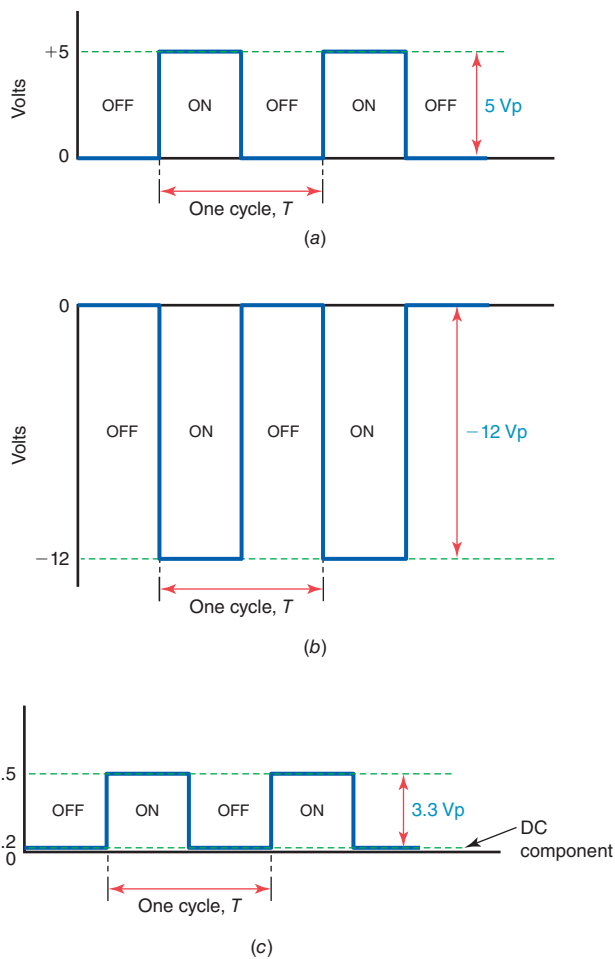
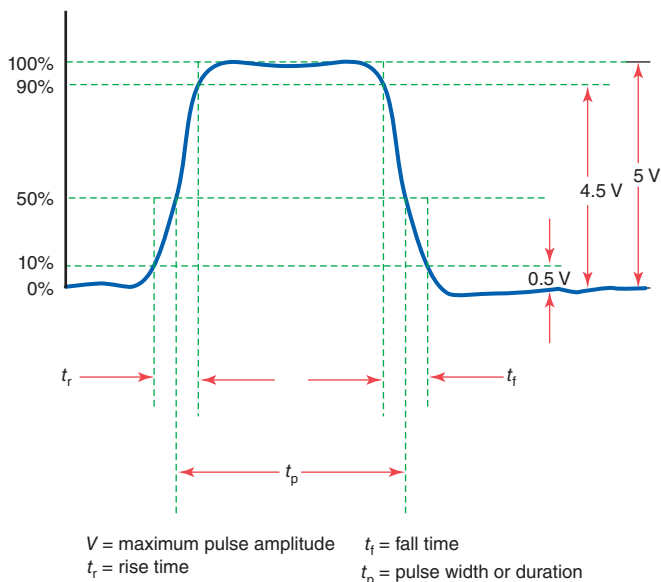

Figure 14-17 DC pulses. (a) positive. (b) negative. (c) positive with dc component.
Figure 14-19 Pulse rise and fall times and pulse width.
The majority of nonsinusoidal waveforms are dc pulses. These have the appearance of the rectangular waveforms shown in Fig. 14-16c and d, but the voltage is of a single polarity, either positive or negative with respect to ground. When the voltage is present, the pulse is said to be ON. When the voltage is not present, the pulse is said to be OFF. Figure 14-17 shows three examples. Such waveforms are typically generated by digital circuits in which most signals have two distinct values. They are referred to as *rectangular waves*.
The most important characteristics of dc pulses are illustrated in Fig. 14-17. One cycle of a pulse is one interval at one level plus another interval at the second level or one OFF period and one ON period. The time between consecutive positive rises or consecutive negative falls is one period (T). The frequency is as with all other waves, the reciprocal of the period
The pulse waveforms in Figs. 14-17 and 14-18 appear to indicate that the voltage switches instantaneously from one level to the next. In reality, it takes a finite period of time for the pulse to switch from its low value to its high value and vice versa. A more realistic pulse is shown in Fig. 14-19. Note that the pulse rises gradually from its low value to its
Actually the rise and fall times are more precisely defined. The rise time (t_r) is the time from the 10% to the 90% value of the pulse amplitude. The fall time (t_f) is the time from the 90% value to the 10% value of the maximum pulse amplitude. For the pulse in Fig. 14-19, the peak pulse amplitude (V) is 5 V. The 10 and 90% values are 0.5 and 4.5 V, respectively. The rise and fall times are measured between these two values. In modern digital circuitry, typical rise and fall times are in the nanosecond and picosecond region.
Another key pulse characteristic is pulse width or pulse duration. This is the time duration that the pulse is on or t_p , as indicated earlier. That value is measured between the 50% amplitude points on the leading and trailing edges of the pulse. See Fig. 14-19.